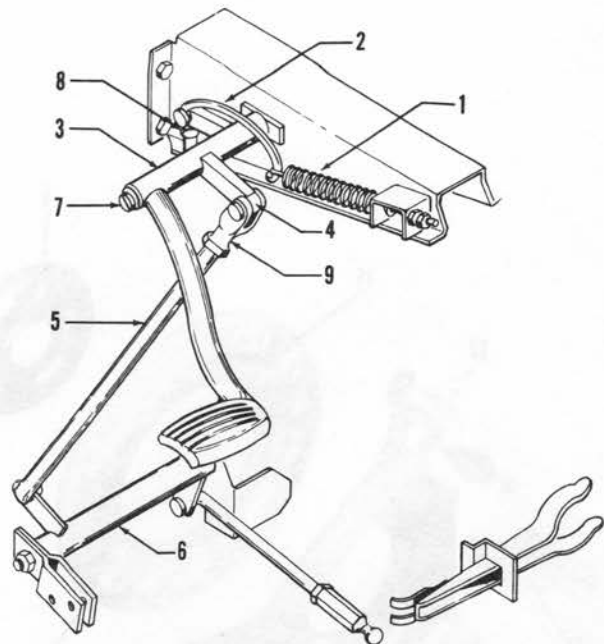

Fig. 3 - Clutch Pedal and Linkage
- d. Remove the cotter pin from the brake and clutch pedal shaft (3-7). Pull the clutch pedal assembly (3-3) from the shaft (3-7). See Fig. 3.